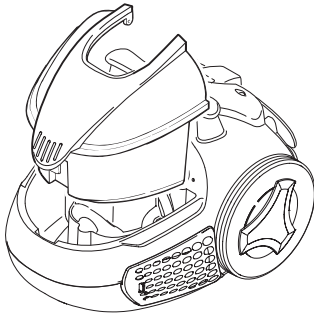

fig. 7
## FILLING THE DUST COLLECTING TANK WITH WATER (FIG. 7–8)
- Remove the dust collecting tank from its slot (fig. 7).